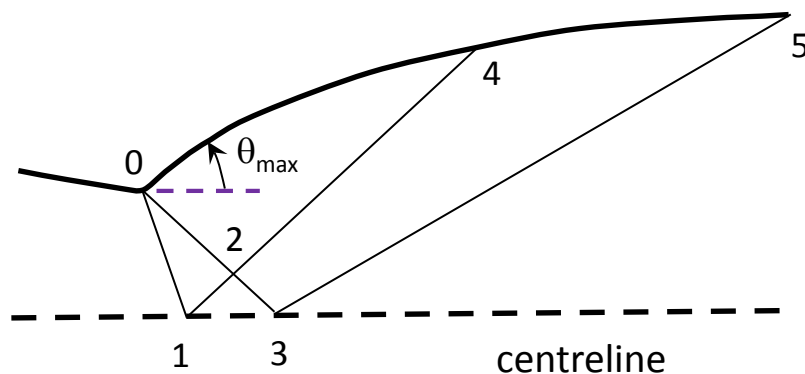

Figure Q.3
Q.3 Consider a prototype method-of-characteristics calculation for a minimum length nozzle, shown on Figure Q.3, using only two characteristic waves. The exit Mach number is $M_e=1.5$. The two characteristics emanating from point 0 are associated with flow angles θ of 3° and θ_{\max} respectively. The centreline has $y=0$ and the x co-ordinate is measured relative to point 0, such that the point 0 has co-ordinates $(x=0, y=1)$.